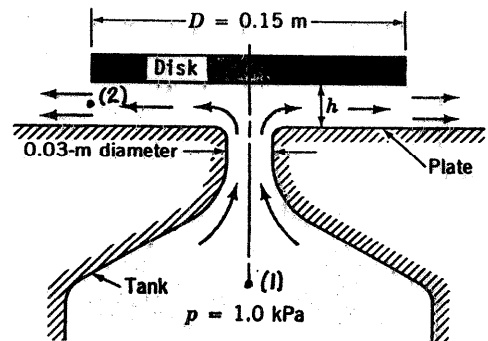

FIGURE P3.86
3.86 Air flows from a hole of diameter 0.03 m in a flat plate as shown in Fig. P3.86. A circular disk of diameter D is placed a distance h from the lower plate. The pressure in the tank is maintained at 1 kPa. Determine the flowrate as a function of h if viscous effects and elevation changes are assumed negligible and the flow exits radially from the circumference of the circular disk with uniform velocity.